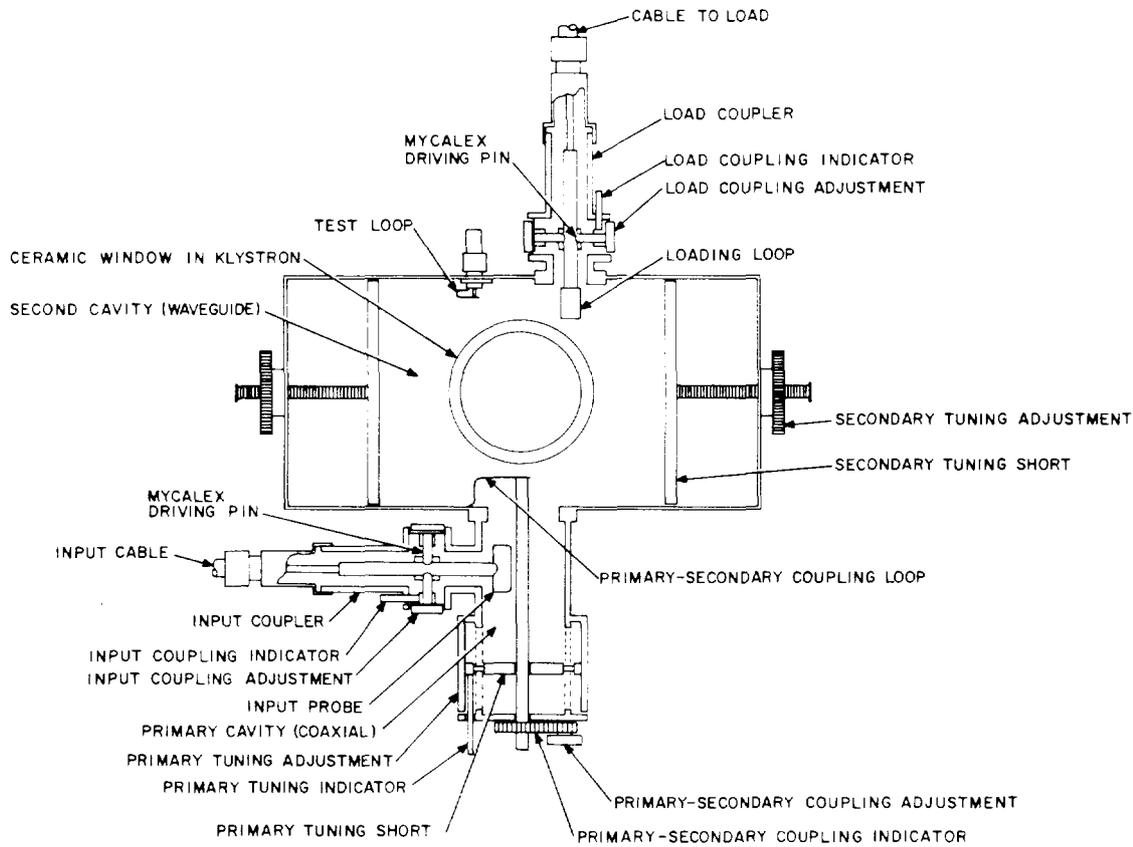

Fig. 12—Input Cavity Assembly
**C. Replacing Mycalex Driving Pins in Input and Intermediate Cavity Load Couplers (Fig. 12 and 13)**